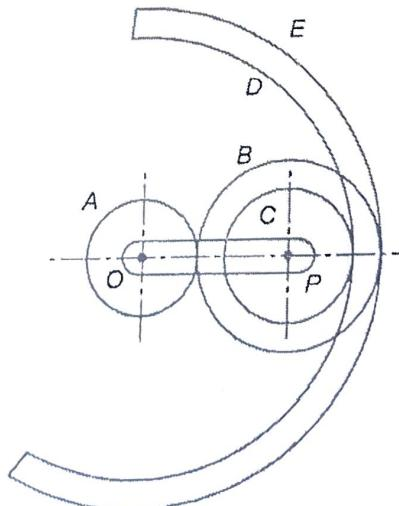

Fig.4
21. Fig. 4 shows diagrammatically a compound epicyclic gear train. Wheels A, D and E are free to rotate independently on spindle C, while B and C are compound and rotate together on spindle P, on the end of arm OP. All the teeth on different wheels have the same module. A has 12 teeth, B has 30 teeth and C has 14 teeth cut externally. Find the number of teeth on wheels D and E which are cut internally. If the wheel A is driven clockwise at 1 rps while D is driven clockwise at 300 r.p.m., determine the magnitude and direction of the angular velocities of arm OP and wheel E.